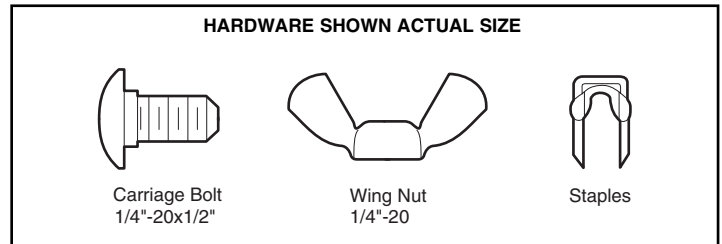

Figure 5A
1. Using insulated staples, run the wires from both sensors to the rail at the door header (Figure 5A).